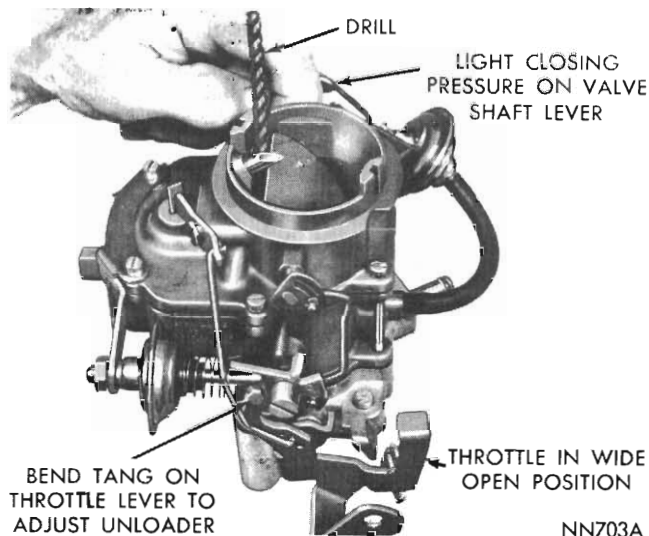

Fig. 16 - Measuring the choke unloader setting (Typical)
(1) Hold the throttle valves in the wide open position. Insert  $\frac{1}{4}$ " drill shank between the upper edge of the choke valve and the inner wall of the air horn, as shown in Fig. 16.